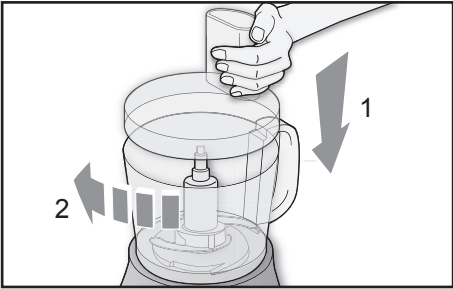

Fig. 7
- Cut the foods into small pieces and place them inside the bowl (D) or for mixing, insert the ingredients.
- Fit the lid (E) over the bowl (D) moving the mark inside the bowl (D) so that it is in line with the symbol . Block the lid (E) so it clicks into place by moving it clockwise  (Fig. 7).
- Start the appliance, selecting the rotation speed of the blade using the operating dial (A).